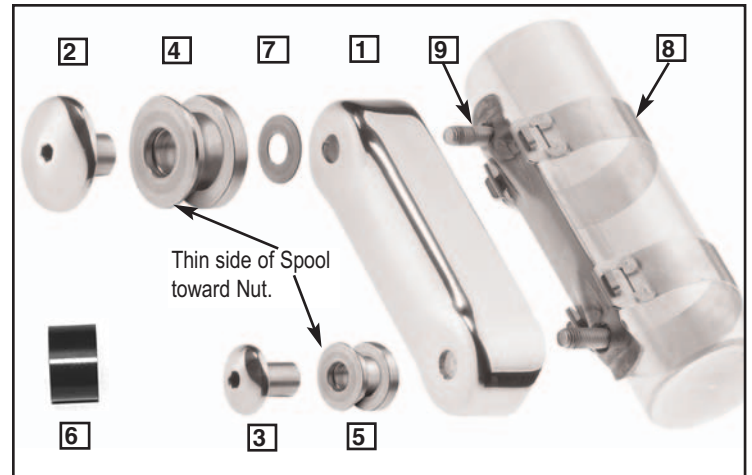

Figure 1
4. Position the Mounting Cup (1) onto the Spider Bracket so the studs protrude from the holes in the Mounting Cup. **Figure 1, Page 1.**
5. Place a Brass Washer (7) onto the top stud. **Figure 1.**
6. Push the large Upper Nut (2) into the large Upper Spool (4) so the **thin side** of the spool is near the head of the Upper Nut. **Figure 1.**
8. Assemble the Lower Spool (5) and Lower Nut (3) so the **thin side** of the Spool is near the head of the Lower Nut.